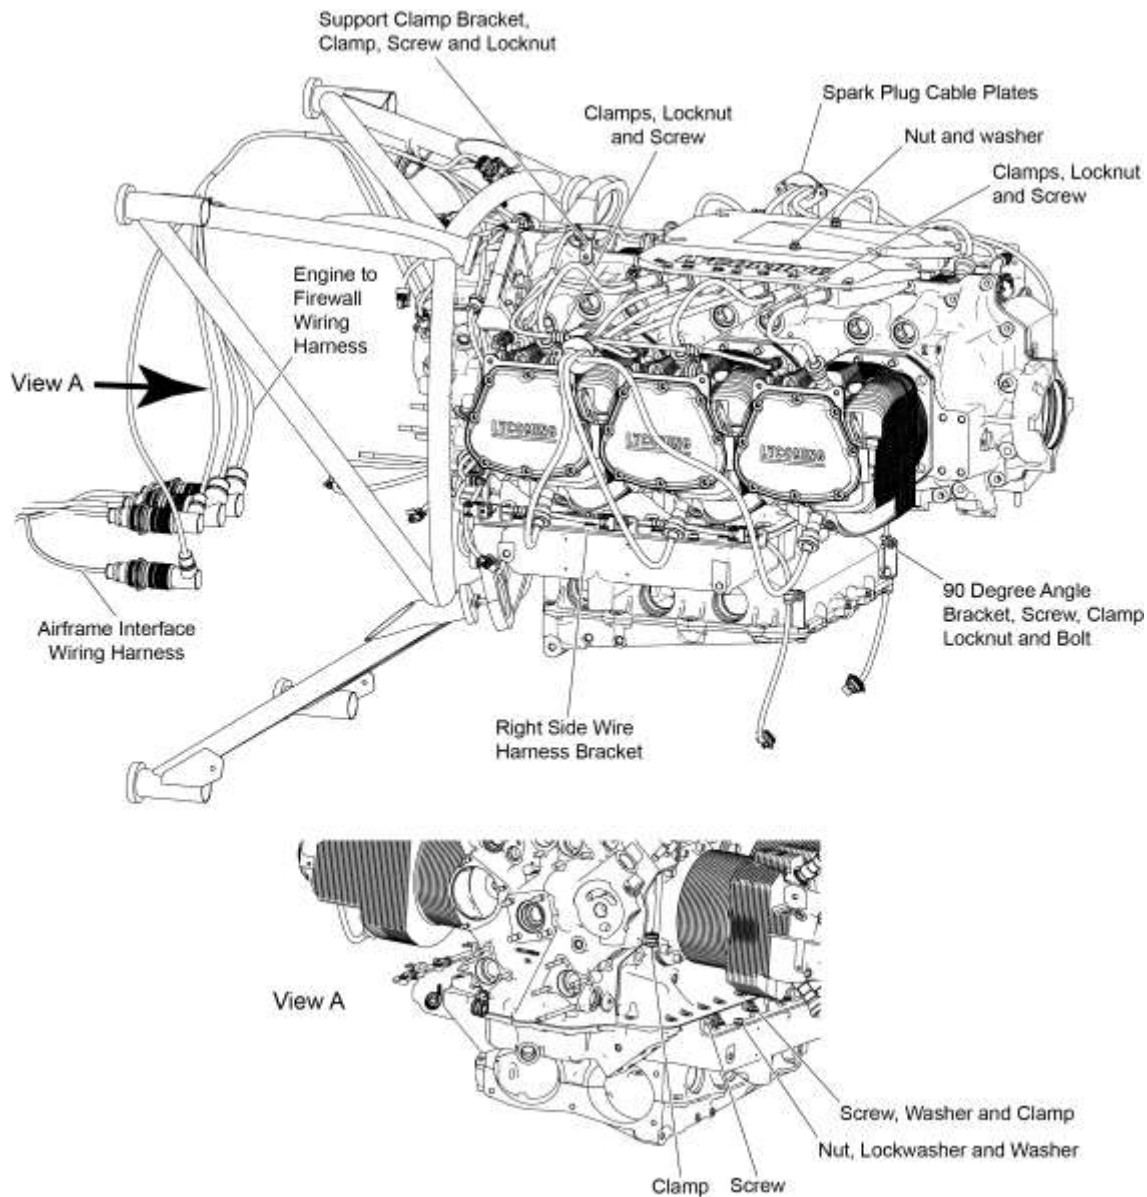

Figure 39
- D. Disconnect the engine-to-firewall wiring harness (Figure 39) from the airframe interface wiring harness at the four firewall connectors.
- K. If a harness is to be replaced with a new harness, identify the location of each clamp (Figures 39 and 40) by a label on the clamp.
- C. Put the engine-to-firewall wiring harness on the engine as shown in Figures 39 and 40.
- E. Install the left and right side harness brackets (Figures 39 and 40) on respective sides of the engine-to-firewall harness with the attaching screws, washers, and new lock nuts. Torque the hardware as per the Standard Torque Tables in the latest revision of the *Service Table of Limits - SSP-1776*.